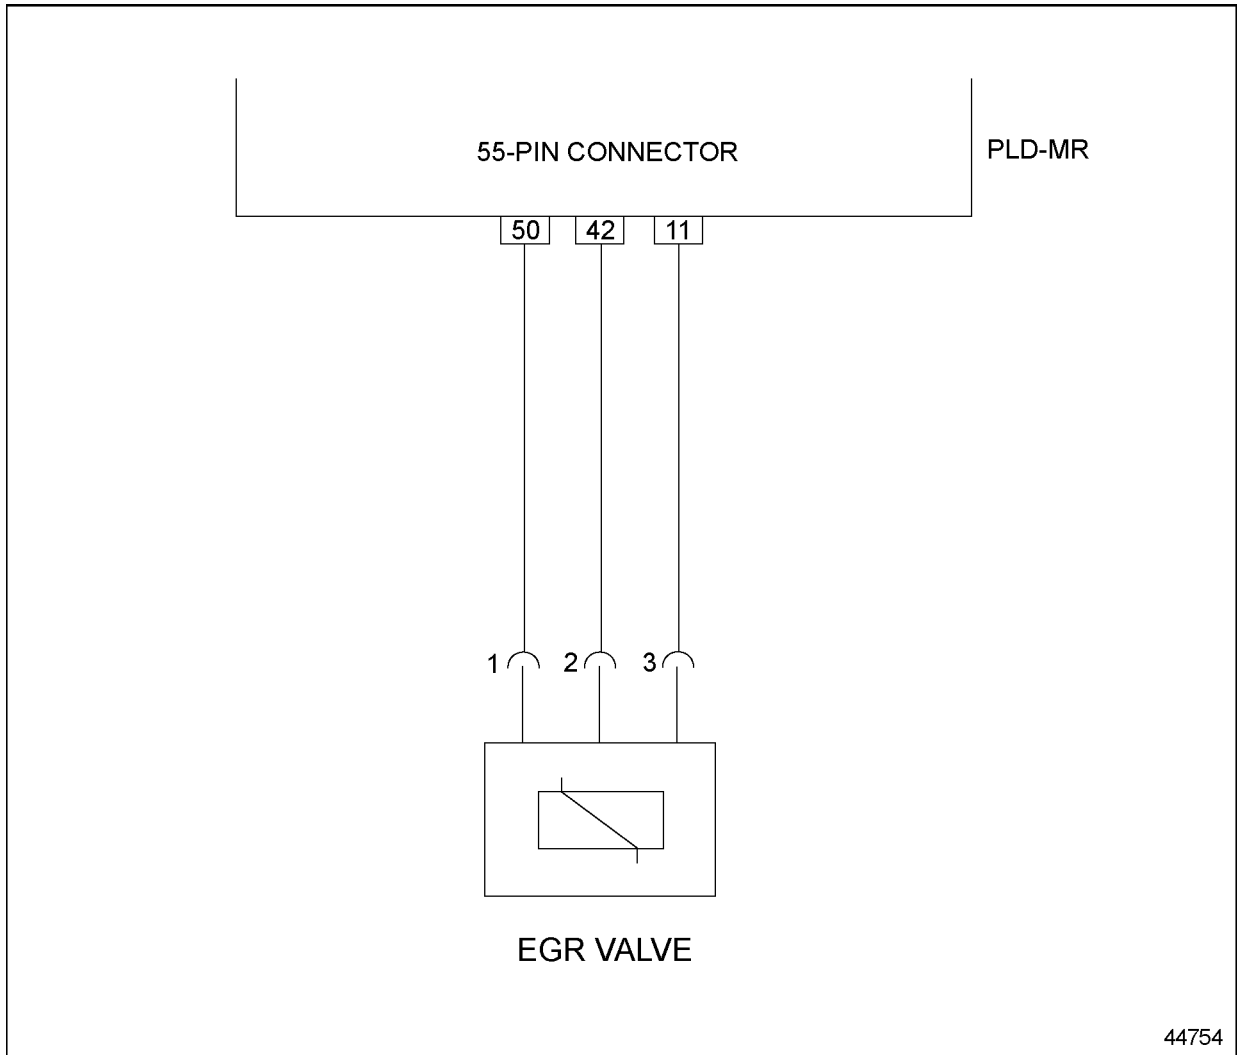

Figure 25-5 EGR Valve Wiring Diagram
- [b] If fault code 146 02 is the only code active, check the wiring between the EGR valve and the PLD-MR. See Figure 25-5. Repair as required. If fault code 146 02 is still active, go to step 2.
2. Check the resistance between pin 42 of the 55-pin connector and pin 2 of the EGR valve. See Figure 25-5.
- 4. Bridge pin 3 of the EGR valve to ground and check for active fault codes. See Figure 25-5.
- 5. Check the resistance between pin 50 of the 55-pin connector and pin 1 of the EGR valve. See Figure 25-5.